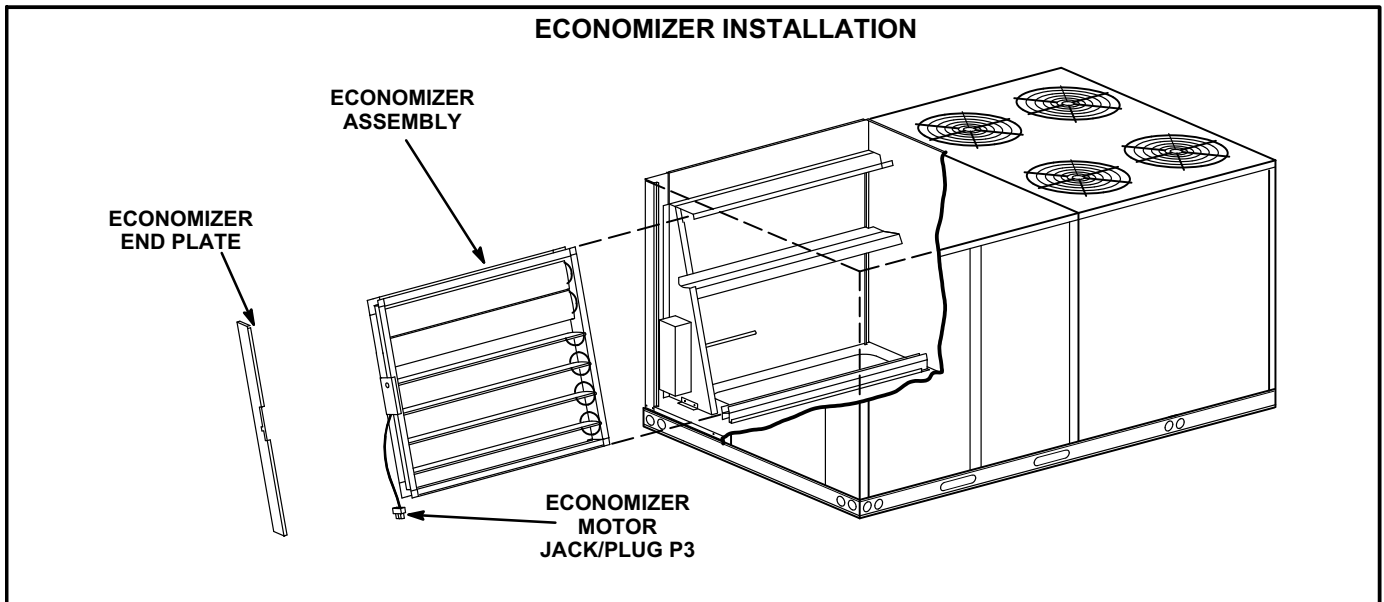
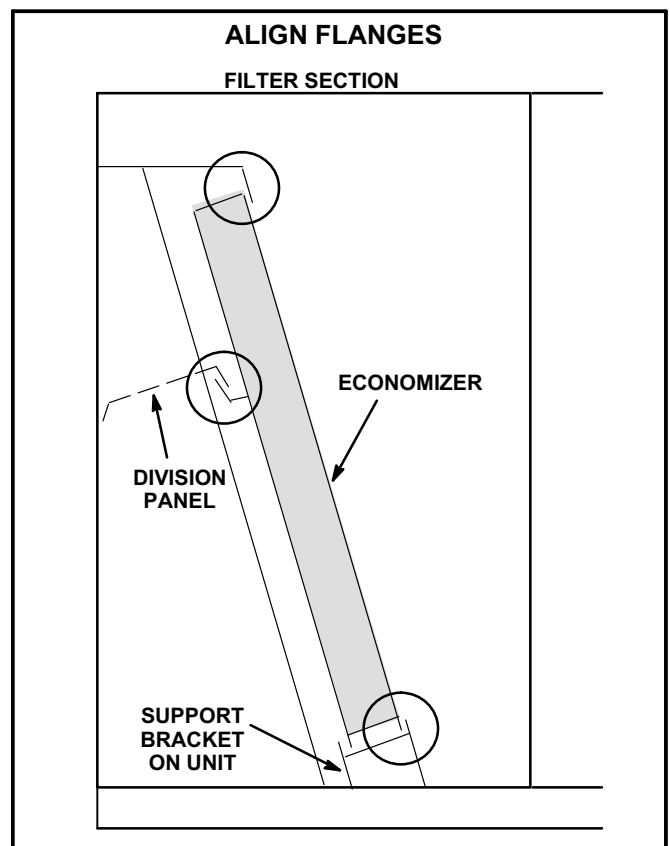

FIGURE 2
FIGURE 3
- 3- Align bottom of economizer with economizer support bracket and slide economizer into unit. See figure 2. Make sure the flanges align as shown in figure 3.